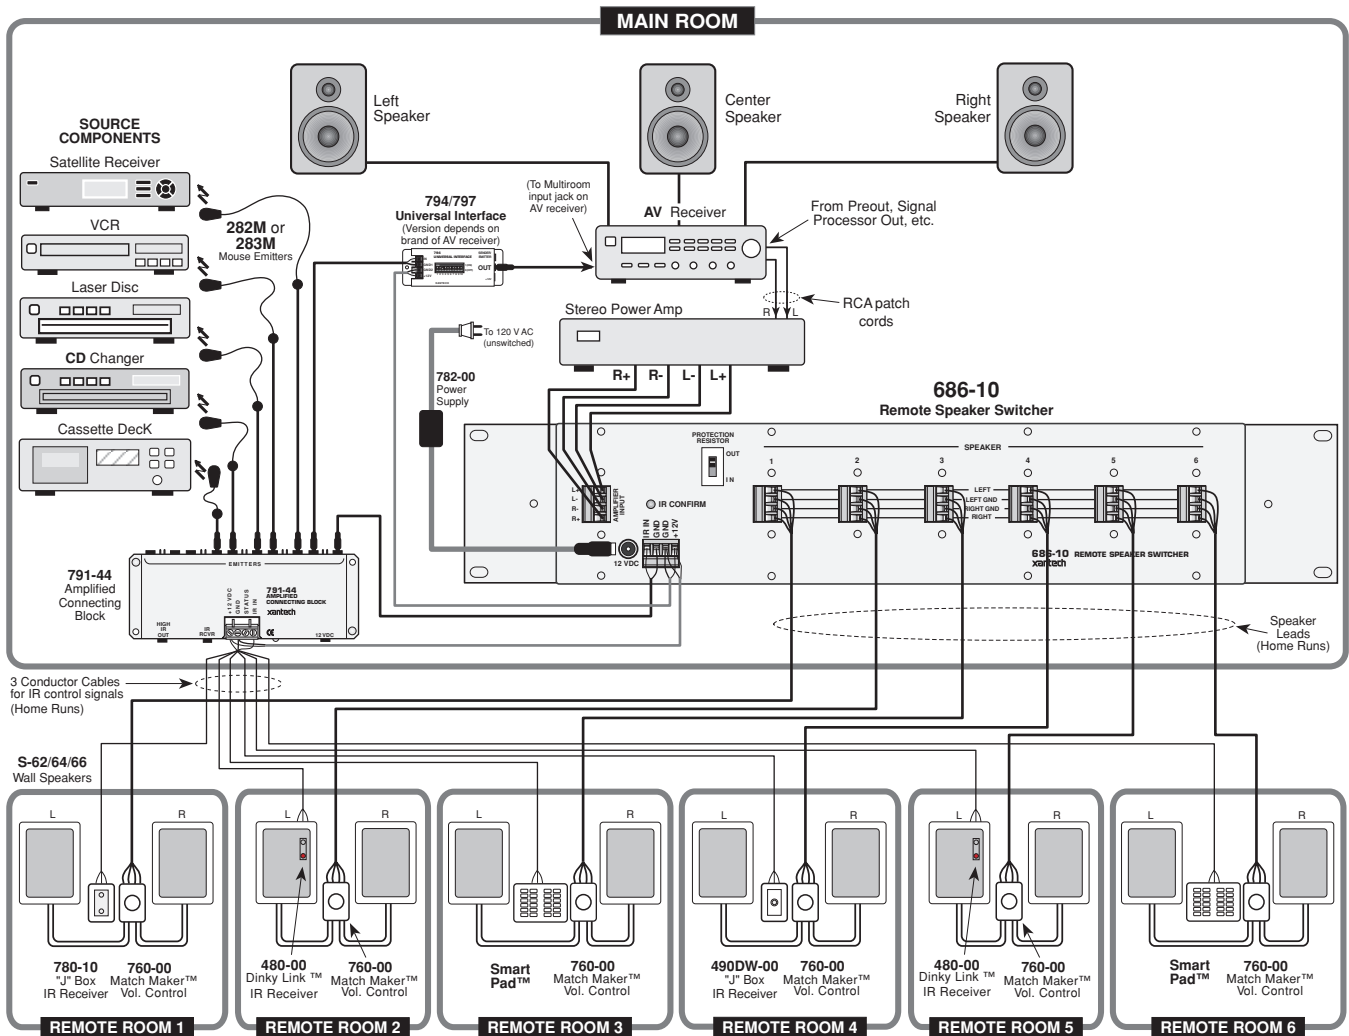

Fig. 3 A Typical System using the 686-10 Remote Speaker Switcher
Fig. 3 shows a typical application of a 686-10 in a multiroom system. The amplifier and speakers are connected to the Model 686-10 by the four-terminal plug-in connectors.
NOTE: When the 686-10 is connected to Xantech 760-00 Match Maker room volume controls, as shown in **Fig. 3**, the PROTECTION RESISTOR is not necessary, since the Match Makers, when set correctly, will provide the proper impedance match to the multiple speakers with virtually no power loss. In this case, be sure the PROTECTION RESISTOR switch is set to the "OUT" position to prevent the waste of amplifier power.
2. Power Supply Considerations. Because of the high current requirement of the relays in the Model 686-10, the Xantech Model 782 High Current Regulated Power Supply **must** be used. In **Fig. 3**, all of the system IR control devices are also powered from the 782 through the 686-10.